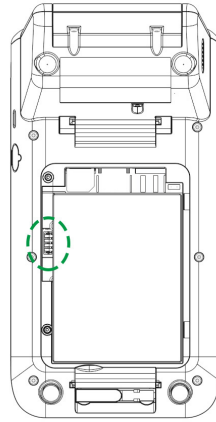

Figure 8
STEP 2: Lift the battery and pull up the battery connector from device as **Figure 8**
STEP 3: Insert the connector of new battery into the device as **Figure 8**